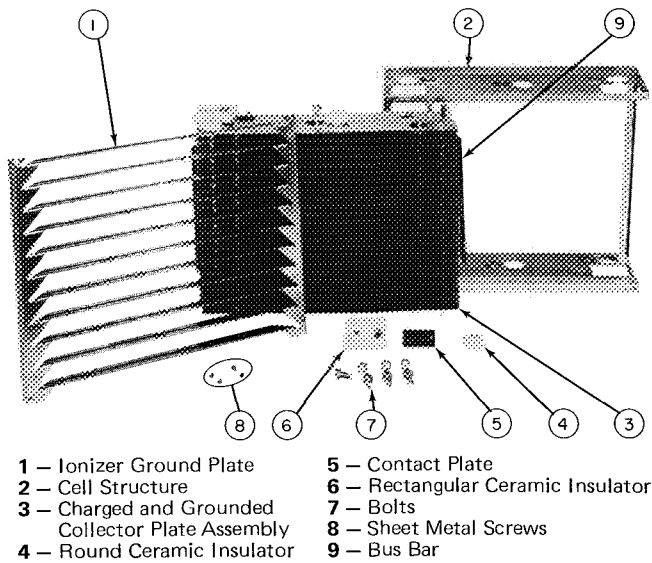

Fig. 15 — Disassembled Cell, Model 31MP
Cell — Plate-type and media-type, Fig. 14. The cell contains the ionizer wires, the ionizer ground plate, Fig. 15, item 1, and the charged and grounded collector plate assembly, item 3, of the plate-type cell.
DISASSEMBLING THE PLATE-TYPE CELL — Refer to Fig. 15.
- Remove the cell structure which consists of a riveted assembly of 2 end panels and 2 angles. ROUND INSULATORS, Fig. 15, item 4, may be lifted from the rod ends when the cell structure is removed.
RECTANGULAR INSULATORS, Fig. 15, item 6.
- Remove the sheet metal screw holding the insulator and contact plate, item 5, to the end of the bus bar, item 9.